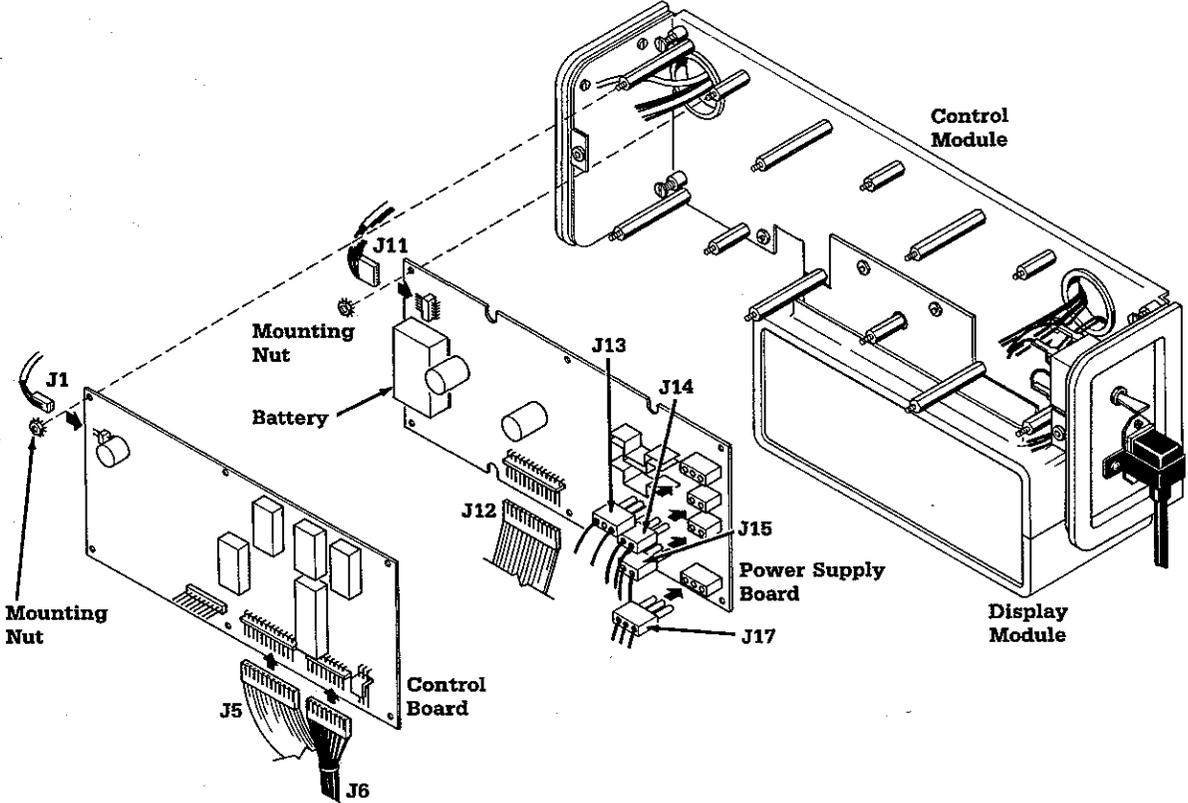

Figure 5-7
B. Control Board and Power Supply Board Replacement (Figure 5-7)